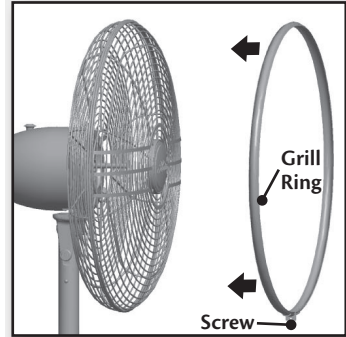

Figure 17
- Expand the grill ring by loosening the screw that secures it. Figure 17.
- Slide the grill ring over both front and rear grills turning the ring so that the screw is on the bottom. Figure 17.